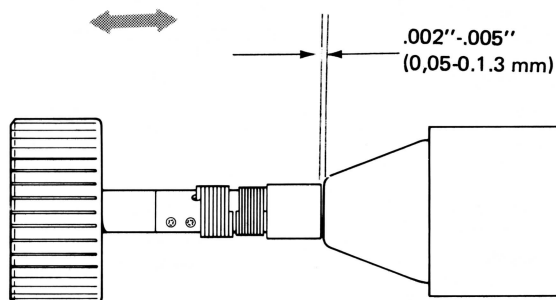

Figure 2
4. Adjust the end play of the clutch (Figure 2).